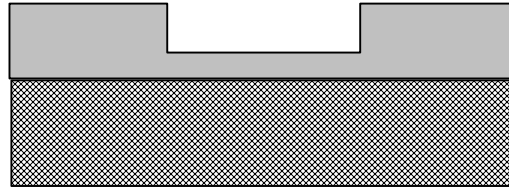

Figure 8: Surface and Base of Pothole Prepared for Treatment (4)
- Square up the sides of the hole until the edges of the hole are sound pavement. This step is usually very simple if the boundaries of the repair area were cut with a diamond saw or established with cold milling equipment. It is usually only required when manual techniques of material removal are employed. Figure 8 illustrates a hole that has been extended to sound pavement and firm supporting material. It is suggested that the depth of the patch be 50% thicker than the thickness of the failed layer.